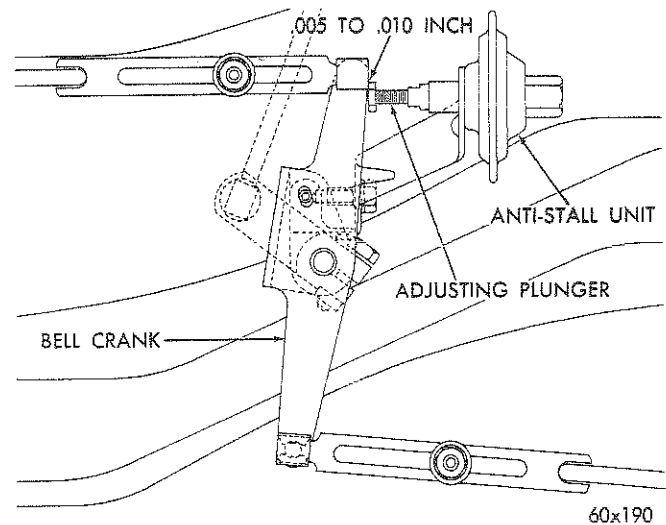

Fig. 16 Anti-Stall Adjustment
(1) To readjust the anti-stall device, it is necessary that the engine be at normal operating temperature and that the curb idle speed be 725 to 750 rpm and constant with the transmission in neutral (N) and the air conditioning compressor "ON" (if so equipped). (See next Paragraph "Adjusting the Ram Manifold AFB 2903S Series Carburetors" to obtain this idle speed).
(2) With the transmission in Drive (D) and with the parking brake and the foot brakes applied, turn the anti-stall plunger toward the bellcrank until clearance of .010" has been obtained. (Refer to Figure 16).
- (1) Remove the choke housing baffle plate.
- (2) Remove the throttle return spring, so that the throttle can be set at one quarter open.
- (3) Be sure the choke valve is wide open.
- (4) Slide a .026 inch wire into the choke piston slot, so that the hook on the end enters the slot in the cylinder, as shown in Figure 16. (This gauge can be made by bending the .026 inch end of wire gauge Tool T-109-189 to form the shape, as shown in Figure 16.
(5) Push on the choke valve, counterclockwise, trapping the wire gauge between the piston and the cylinder slot (choke linkage hanging free).
(6) It should now be possible to insert a No. 32 drill between the choke valve and wall of the air horn. If an adjustment is necessary, bend the link that connects the choke shaft to the choke piston lever (at angle) until the correct clearance has been obtained.
(7) Place the choke baffle plate in position and install retaining screws. Tighten securely.
(8) Connect the throttle return spring.